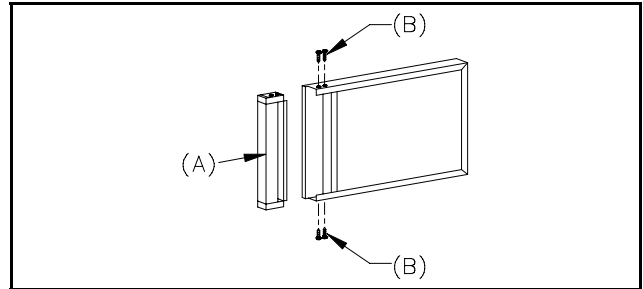

Figure 7
The Norcold refrigerator door provides slots for inserting a decorative panel. Installation of the panel is accomplished by removing the handle assembly, inserting the decorative panel, and re-inserting the handle assembly (see Figure 7).
2. Remove handle assembly (A) by removing four screws (B). See Figure 7.